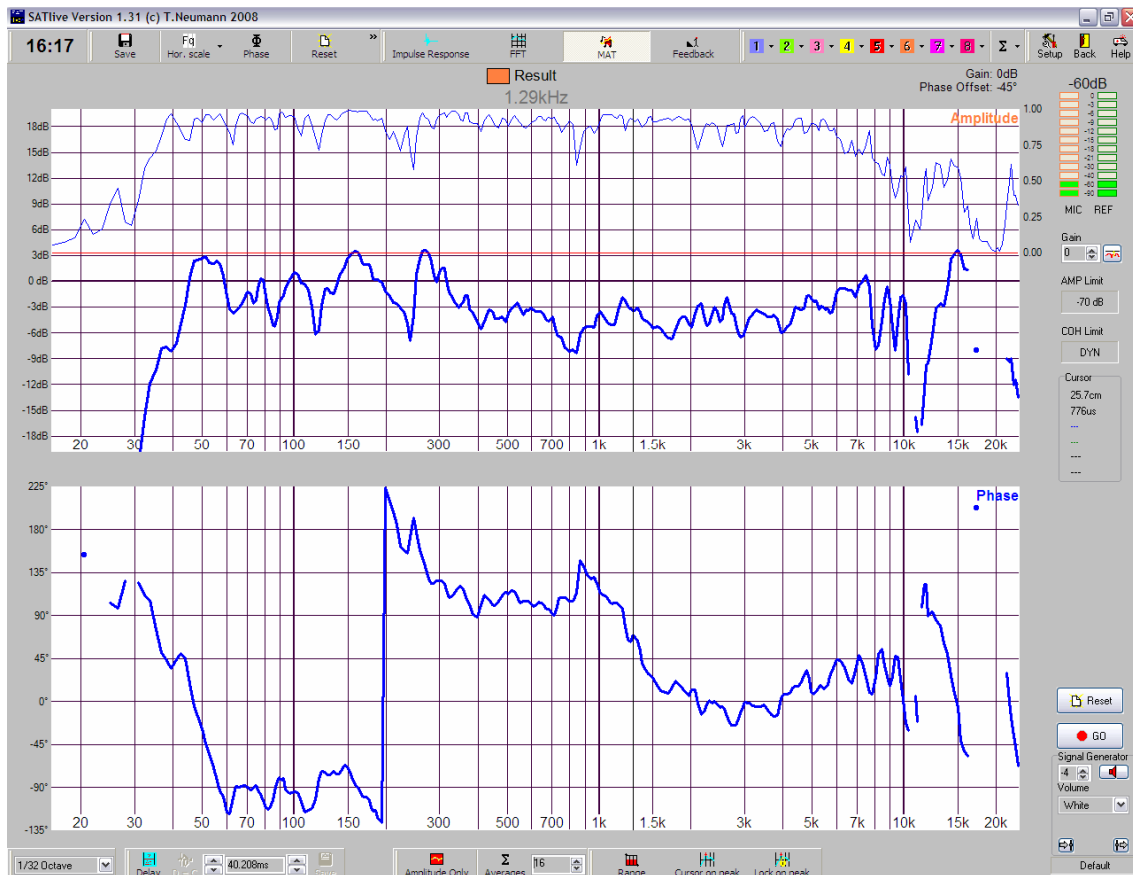

Fig. 21. Measurements for the mid-high box. In this case the system, normally complemented with subwoofers, uses a very low crossover frequency.
- 5) Measure the mid-highs and save the curve. In our example, the curve in Figure 21 is obtained.